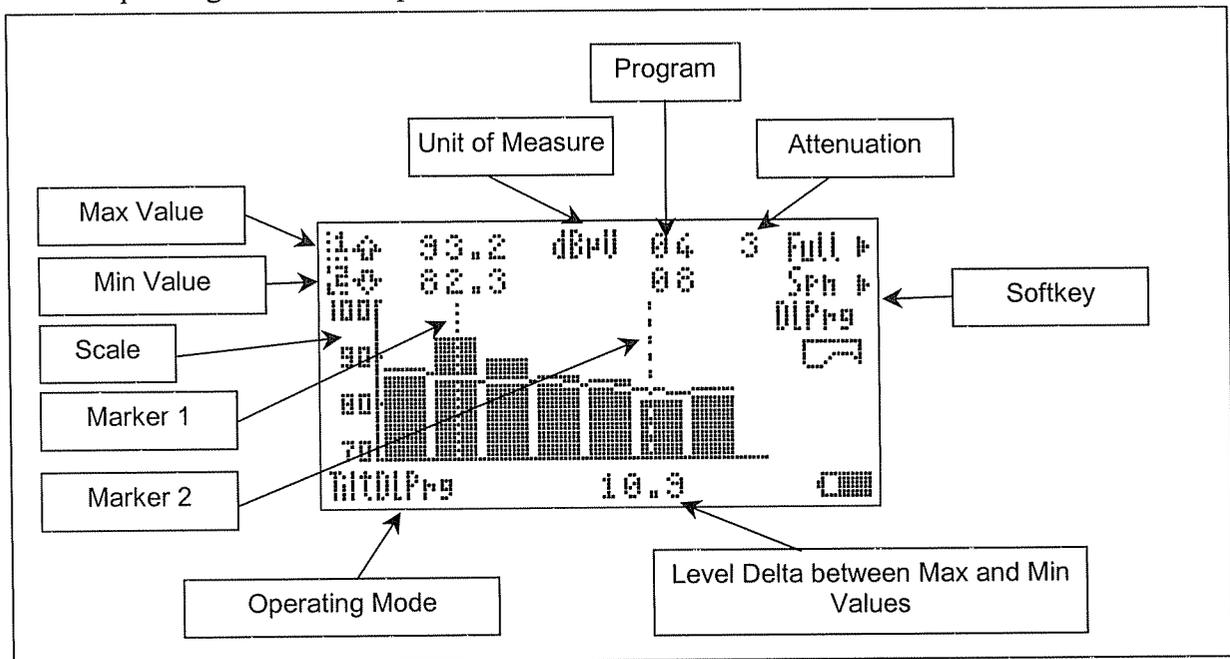

Figure 6 Typical Tilt display
Tilt, the display of which is shown in Figure 6, is a very useful function as it allows the minimum and maximum level among user-defined programs to be compared for equalization.
- Setting of locking parameters. Press  **SOFT KEY (6)**, then select  icon on the BER display (Figure 6) by means of the shaft encoder, then press **↓ (ENTER) (7)** to confirm (see section 8.2.4.1).
- Selection of TSER (Transport Stream Error Ratio) display. Press  **SOFT KEY (6)**, then select  and press **↓ (ENTER) (7)** (see section 8.2.4.2).
- Engaging the BNIT mode (a combination of BER and part of the NIT information). Press  **SOFT KEY (6)**, select  then press **↓ (ENTER) (7)** to confirm. (see section 8.2.4.4).
- Engaging the NIT card. Press  **SOFT KEY (6)**, select  then press **↓ (ENTER) (7)** to confirm. (see section 8.2.4.3).
- Printing measured readings through RS232. Press  **SOFT KEY (6)**, select  icon via the shaft encoder, then press **↓ (ENTER) (7)** to confirm.